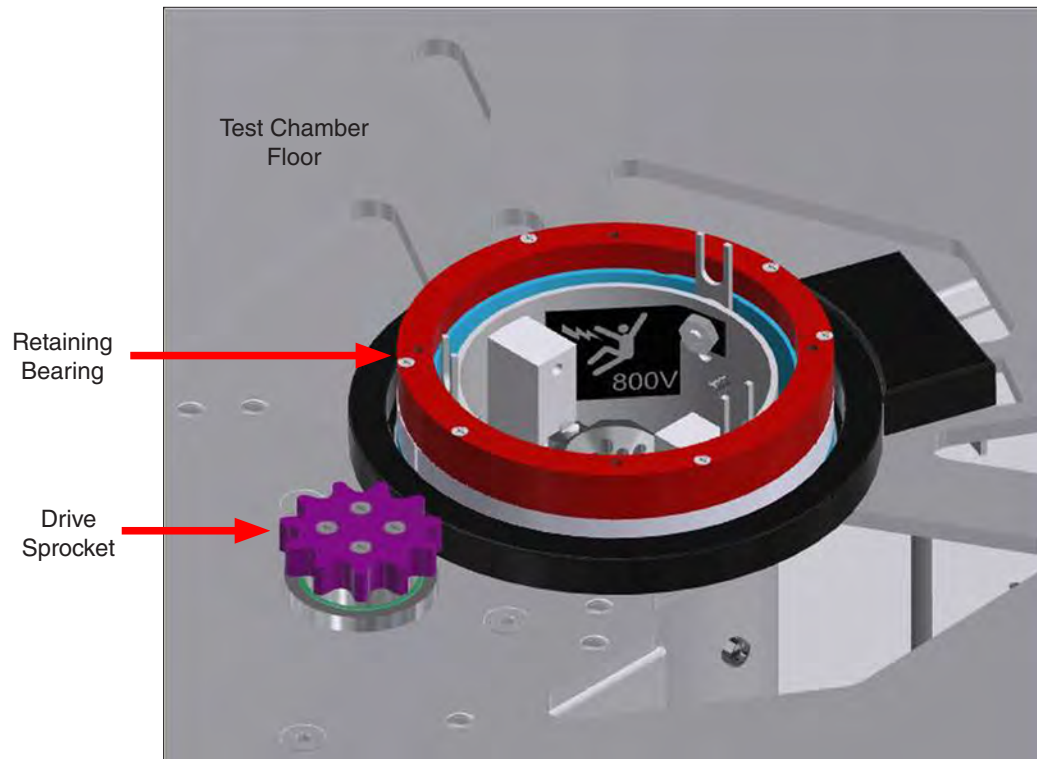

Figure 6.2a: Schematic showing turntable drive sprocket and retaining bearing (turntable removed).
- The turntable is supported by a retaining bearing on the floor of the test chamber (Figure 6.2a).